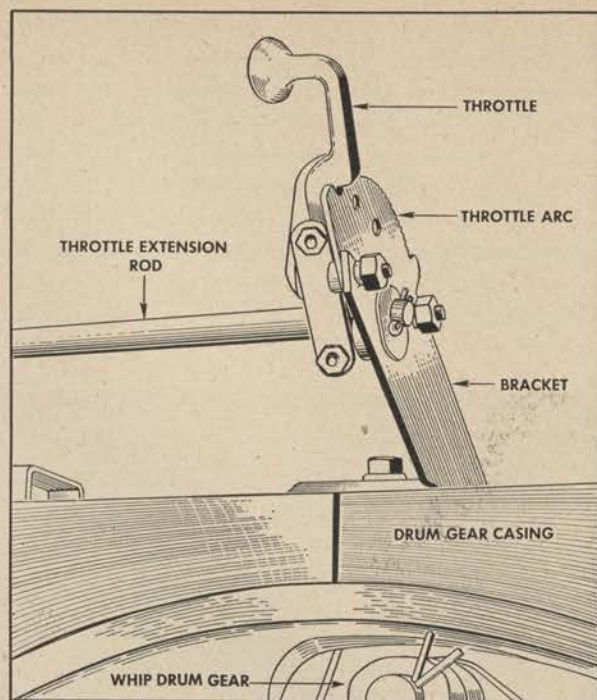

Figure 63. Main power plant speed control throttle.
b. **HOIST AND DERRICK CONTROLS.** (1) *General.* (a) The hoist is equipped with five drums: three single drums and one pair of twin drums. Two control stands are provided, one on each side of the forward end of the unit. The control stand on the port side controls the twin vang drums, and the control stand on the starboard side controls the three hoisting drums. In order from aft forward, the single hoisting drums are identified as: boom, main load, and the whip. The twin vang drums are farthest forward. The main engine control throttle is mounted on the hoist to the left of the starboard control stand. (See fig. 63.)